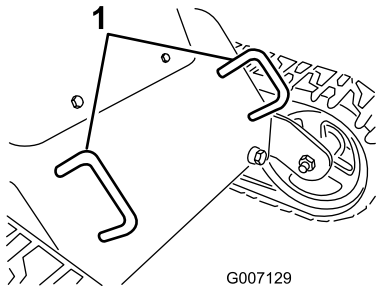
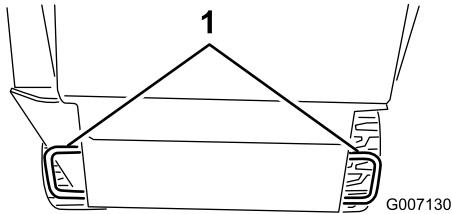

Figure 38
Figure 39
3. Secure the traction unit to the trailer with chains or straps using the tie-down/lift loops at the front and rear of the traction unit (Figure 38 and Figure 39).
You can lift the traction unit using the tie-down/lift loops as lift points (Figure 38 and Figure 39).